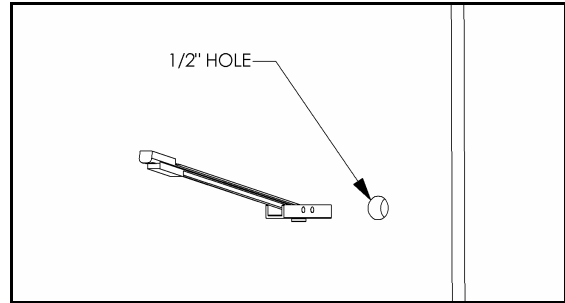
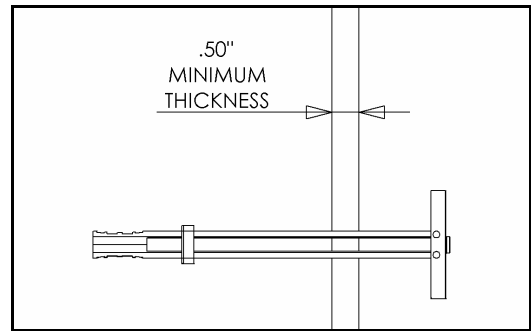

Figure 10. Drill 1/2" Hole
Figure 11. Insert Anchor into Hole
1. Using the wall bracket (10) as a template at the desired mounting location, mark the location of the four mounting holes that you select to mount the wall bracket on the wall. Make sure the wall is at least 1/2" thick (see Figure 11).
2. Drill four 1/2" holes (see Figure 10) into the wall at the points marked (see Step 1 for reference) to mount the wall bracket (10). If the wall is made with metal studs, it is recommended to install the anchor through the drywall and the metal stud.
3. Slide finger grip of the anchor (60) together. Insert the anchor into a drilled hole (see Figure 10). Turn end of anchor perpendicular to wall as shown in Figure 11.